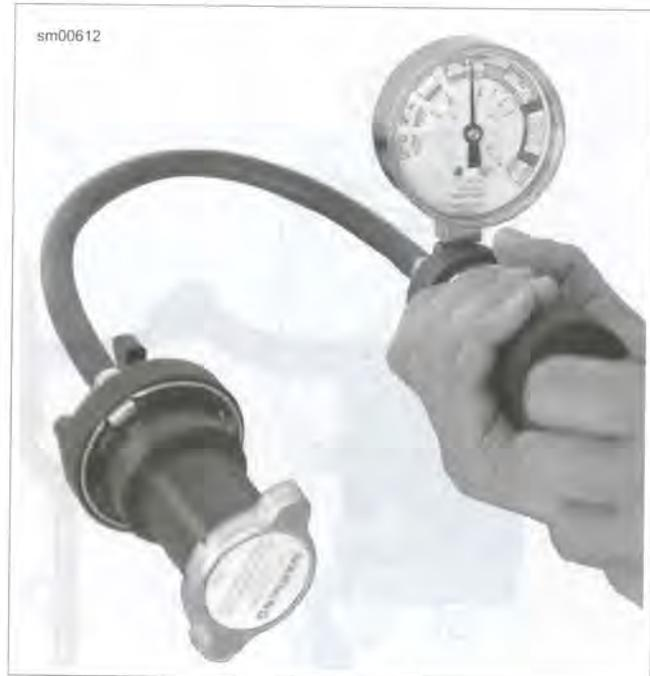

Figure C-2. Pressure Cap Test
3. See Figure C-2. Connect COOLANT SYSTEM PRESSURE TESTER (Part No. HD-45335) to pressure cap.